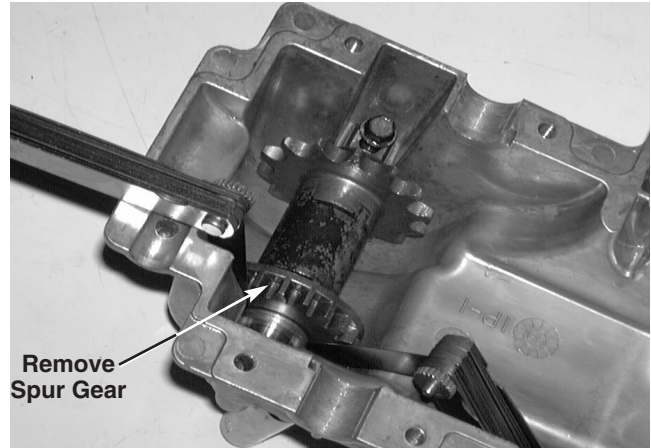

FIGURE 3.
- 11). Place two feeler gauges between the reverse spur gear and the flat washer shim. See figure 3.